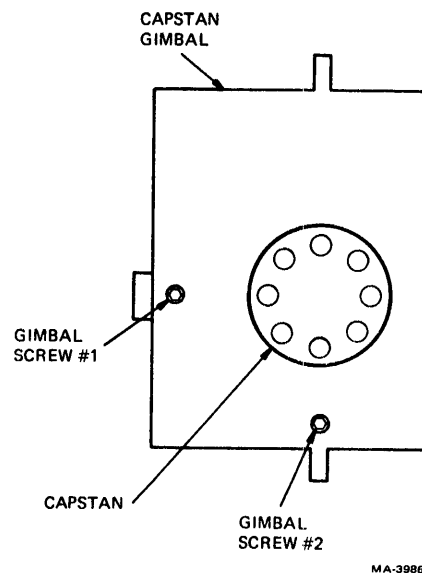

Figure 7-14 Capstan Gimbal Adjustment
- b. Use test 50 and move the tape forward and reverse. Observe the relative position of the tape with respect to the capstan. Ideally, the tape should remain in the center of the capstan when tape is moving in either direction. If the tape moves on the capstan when you change directions, use an Allen wrench to turn gimbal screw 1 (Figure 7-14) about one turn (in either direction, remembering which direction you turned the screw). Perform this adjustment while the tape is moving. If the tape motion is reduced, you are turning the screw in the right direction. If motion increases, turn the screw in the opposite direction.
- c. Now use test 11 to run the tape in a steady state condition forward. If the tape is not tracking in the center of the capstan, turn gimbal screw 2 (Figure 7-14) as follows. If the tape is tracking too close to the deckplate, turn screw 2 counterclockwise. If the tape is tracking away from the deckplate, turn the screw in a clockwise direction.